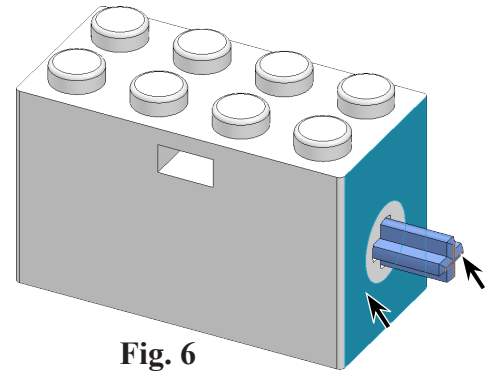

Fig. 6
Step 2. Click **side face of Motor** and **end face Axle**, **Fig. 6**.